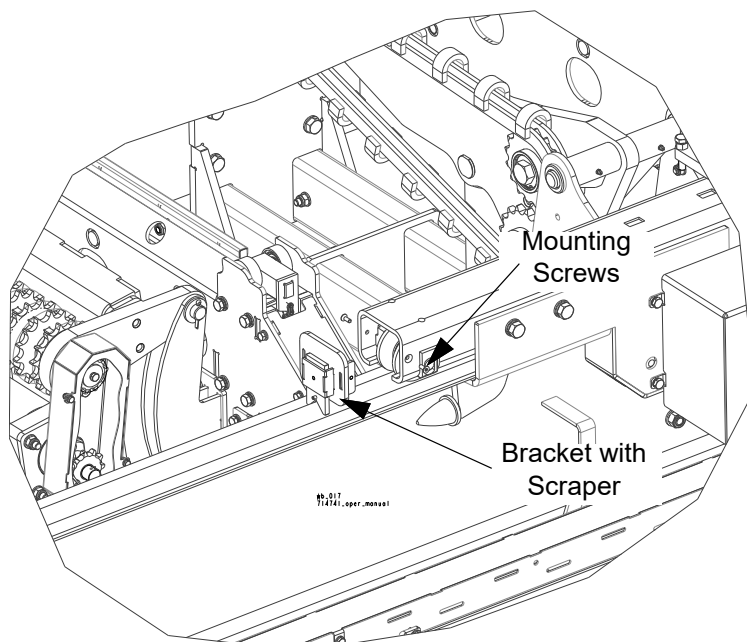

FIG. 6-4
See Figure 6-4 Remove the mounting screws and dismount the scraper brackets (4).